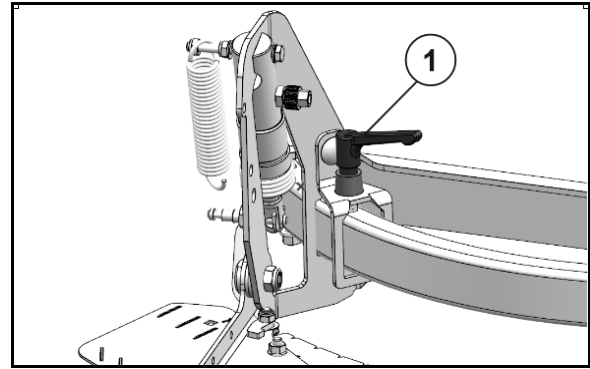

Fig. 59
1. Release the clamping lever (Fig. 59/1) for this purpose.